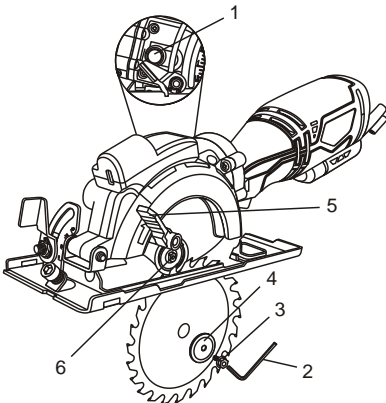

Fig. 1
1. Press inward on the shaft locking button (1) (Fig. 1).
2. Insert the 5mm hex key (2) into the blade screw (3). While pressing inward on the shaft locking button, rotate the hex key clockwise until the shaft locking button engages with the blade shaft. Continue turning the hex key clockwise and remove the blade screw and the outer blade flange (4).